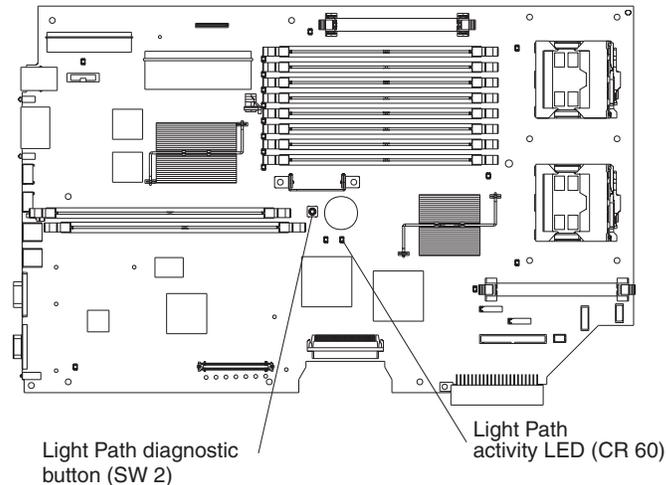

Figure 63. Lighting the light path LEDs without ac power
- 5) Press and hold the blue light path diagnostic button (see Figure 63) to illuminate the system board LEDs.